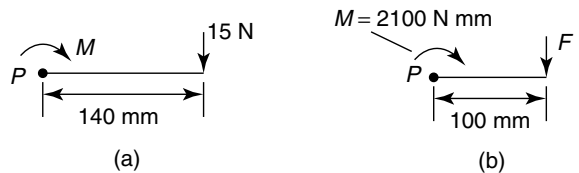

Figure 5.2
From above,  $M = F \times d$ , where  $M$  is the turning moment,  $F$  is the force applied at right angles to the spanner and  $d$  is the effective length between the force and the centre of the nut. Thus, with reference to Figure 5.2(a):
- (b) Turning moment,  $M$  is 2100 N mm and the effective length  $d$  becomes 100 mm (see Figure 5.2(b)).